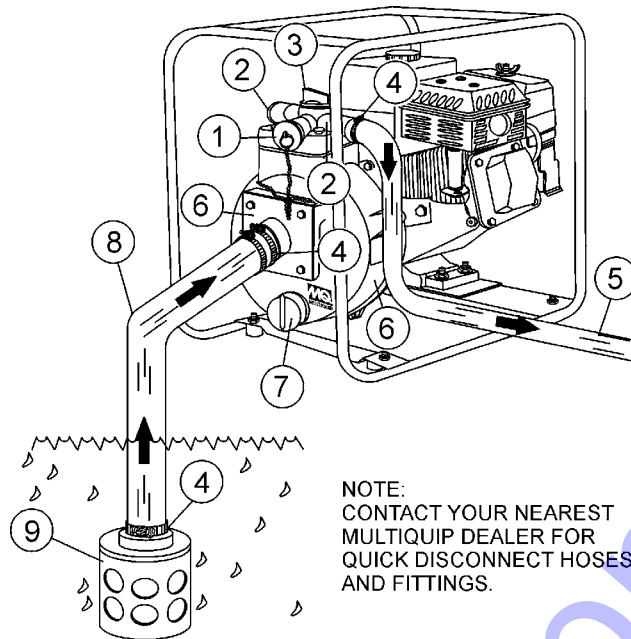

Figure 3. QP205SLT/QPT205SLT Pump Application
Figure 3 shows a typical application using the QP205SLT/QPT205SLT centrifugal pump. Please note that this pump is intended for the removal of clean water.
2. To prime pump, remove fill cap (See Figure 3) and fill pump casing with water. If the pump casing is not filled with water before starting, it will not begin pumping.
3. Attach suction and discharge hoses to the pump. Check that all hoses are **securely** attached to the pump. Make certain suction hose (See Figure 3) does not have any air leakage. Tighten hose clamps and couplings as required.
6. Check that the **discharge** hose (See Figure 3) is not restricted. Place hose so that it lays as straight as it is possible on the ground. Remove any twists or sharp bends from hose which may block the flow of water.
8. Make sure the **suction strainer** (See Figure 3) is clean and securely attached to the water end of the suction hose. The strainer is designed to protect the pump by preventing large objects from being pulled in to the pump.